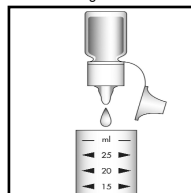

Figure 2
2. Add 5 drops of A-2800 Acidifier Solution (fig. 2). Cap the cup and shake it to mix the contents well.